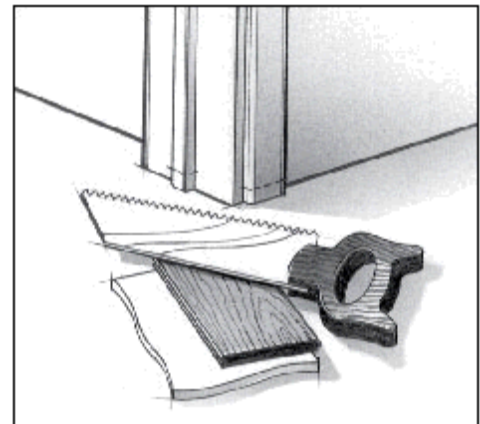

Fig. 1
2. Door trims and doorjamb must be undercut to allow the floor to move freely. Use a discarded piece of floor and foam underlayment to support the saw blade at the correct height for undercutting (Fig.1).